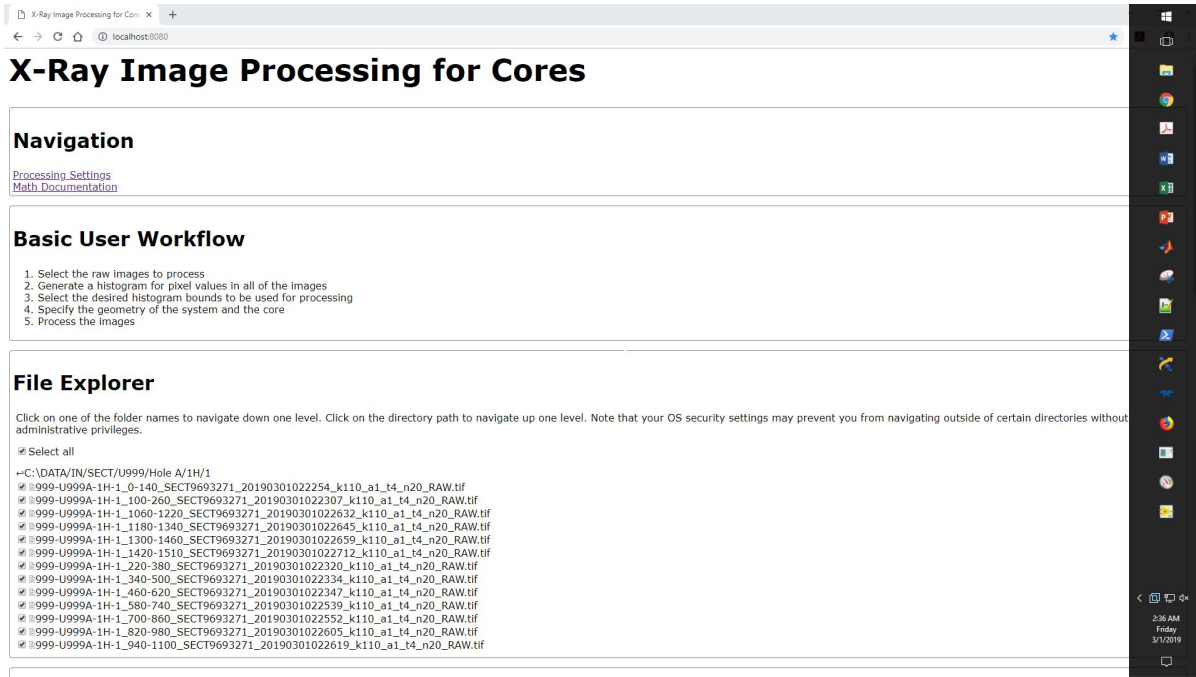

Figure 37. IODP X-ray imager processing window
- a. The X-ray image processing window should open (*Figure 37*).
10. Under the File Explorer heading, navigate to the location of your files (Figure 37).